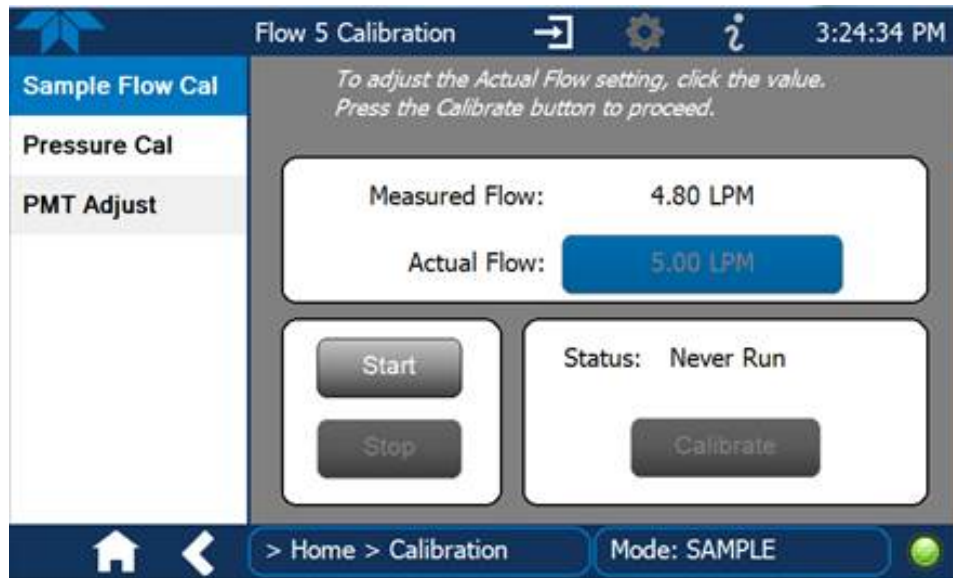

Figure 16. Sample Flow calibration screen.
6. Compare the “Measured Flow” in this screen to the Flow Standard (Figure 16) and determine if these values differ by more than 5%, (e.g., outside of 4.75 – 5.25 lpm for sample flow, if sampler reads 5.00).